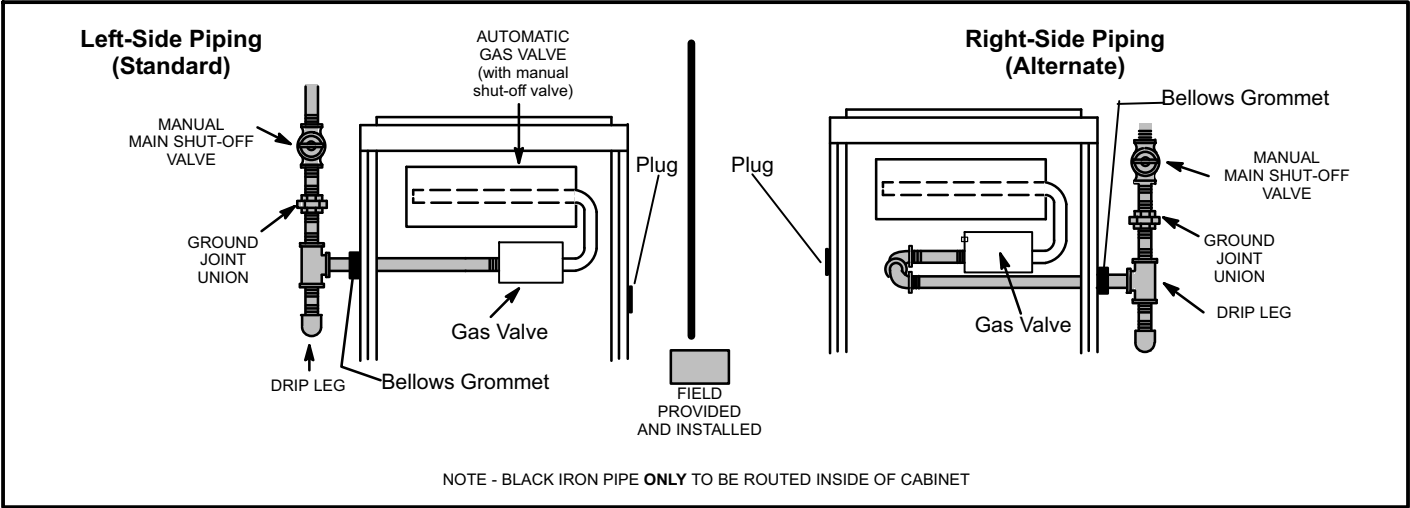

FIGURE 52
- 1 - Gas piping may be routed into the unit through either the left- or right-hand side. Supply piping enters into the gas valve from the side of the valve as shown in figure 52. Move Bellows grommet to side which gas line enters. Ensure opposite gas line hole is plugged with supplied plug.
- 3 - Gas piping must not run in or through air ducts, clothes chutes, chimneys or gas vents, dumb waiters or elevator shafts. Center gas line through piping hole. Gas line should not touch side of unit. See figures 52 and 53.